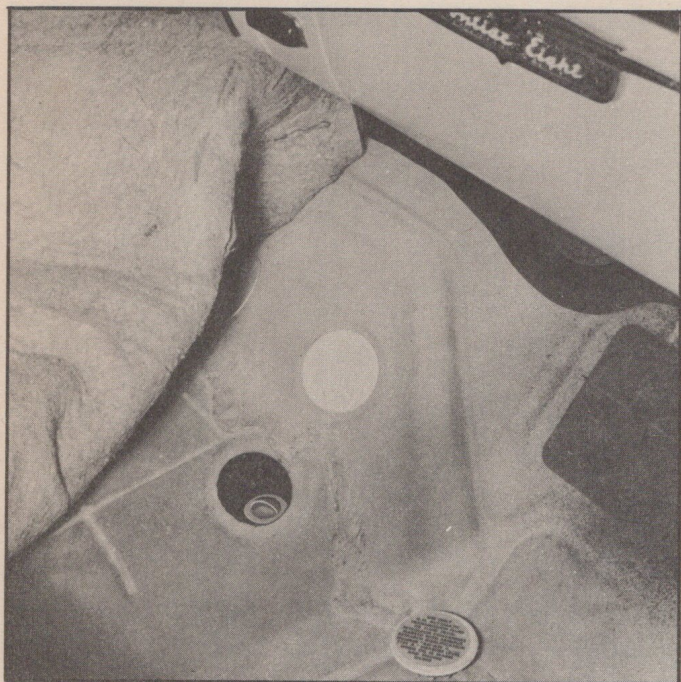

Fig. 82—Inspection Cover Removed
7. Remove transmission inspection floor hole cover (Fig. 82).
10. Remove transmission inspection floor hole cover (Fig. 82).